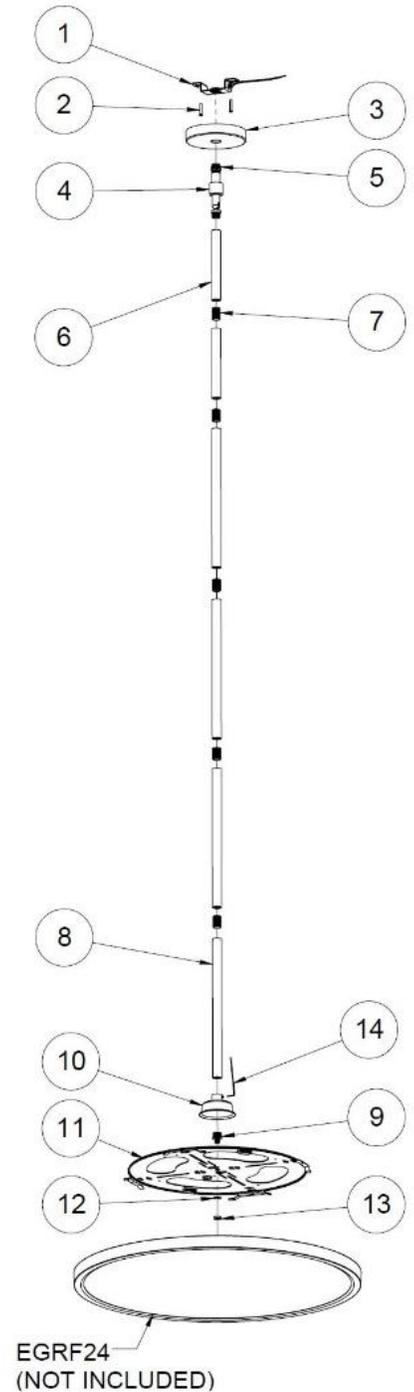

FIG 2
- Identify your fixture model EGRF16 or EGRF24 then proceed accordingly to corresponding illustration of Fig 1 or Fig 2.
- Connect all stems (6, 7, 8) together and to the swivel part (5) and to the reducer nipple (9) by turning clockwise to secure it. **Note: two different length reducer nipple (9) and two different cover (10) provided but only one of each will be used depending on the fixture models purchased. Discard spare parts if not used.**
- For EGRF24 model, insert metal cover (10) over the stem first then install original metal mounting plate (11) to the reducer short nipple (9) by using lock washer (12) and jam nut (13) to secure it per Fig 2. Discard spare parts if not used.
- For EGRF16 model, install the fixture to the cover (10) by turning clockwise to lock and secure it. All splicing must be hidden inside the cover.
- For EGRF24 model, install the fixture to the metal mounting plate (11) by turning clockwise to lock and secure it. Then lower the metal cover (10) on top of the metal mounting plate. Using Allen wrench (provided) to secure it. All splicing must be hidden inside the cover (10).